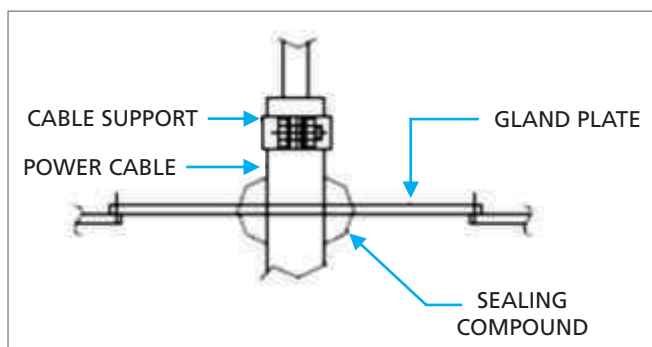

Figure 4.8.1 B - Assembly of Cable Gland Plate
- If there is any gap between the power cable and the gland cover, apply sealing compound around the Cables to fill the gap as shown in Figure 4.8.1 B.